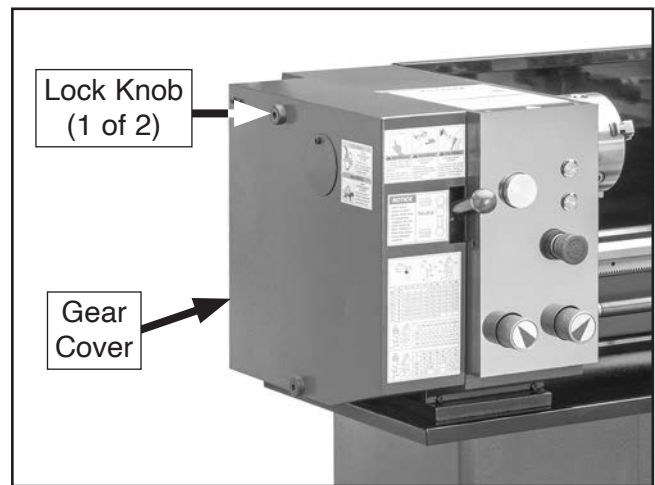

Figure 31. Location of gear cover and lock knobs.
16. Remove gear cover lock knobs to remove gear cover (see **Figure 31**).